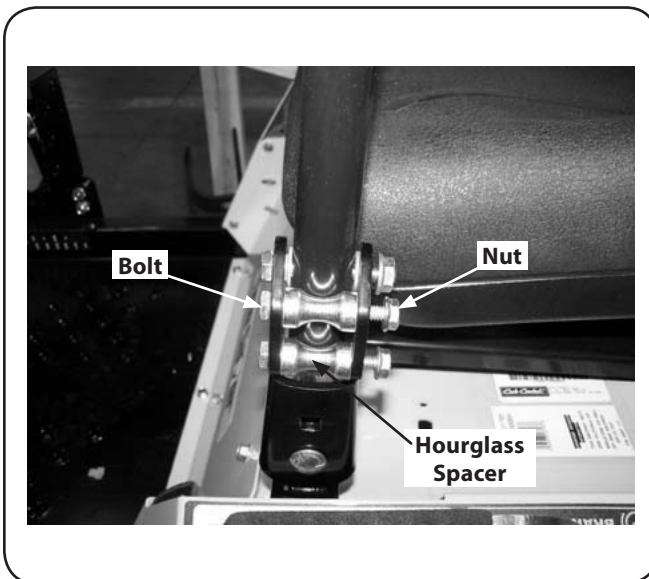

**Figure 3-5**
2. From the outside, insert the bolts through the hourglass spacers and the holes of the pivot bracket. Secure with the flange lock nuts. See Fig. 3-5.